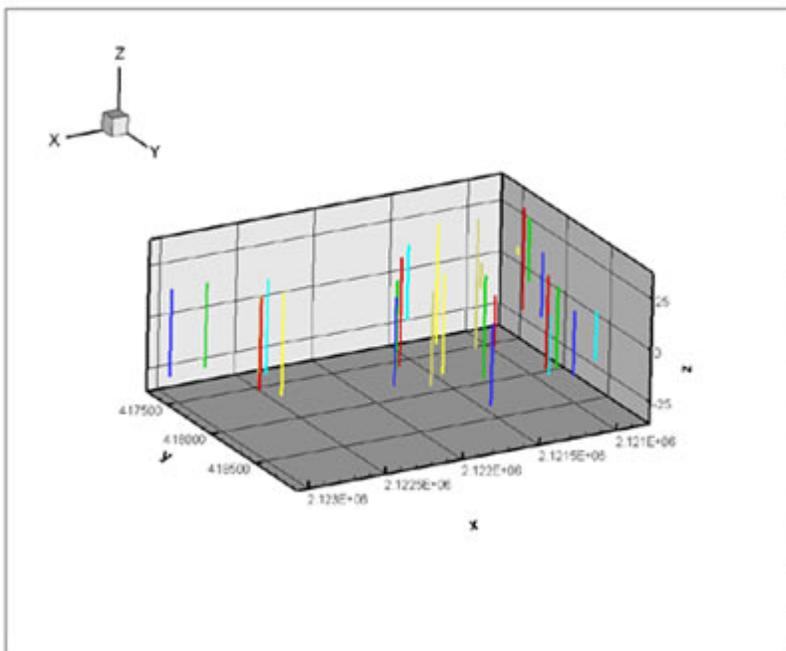

Figure 66. The Excel well data plotted in Tecplot Focus.
3. Switch to 3D Cartesian plot mode to see the location and measurement depths of the well samples. The resulting plot is shown in Figure 66.